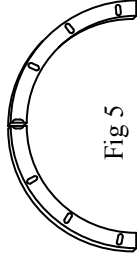

Fig 5
- 8 Take two of the curved sections for the roof. The curves have location slots for the roof struts as Fig 5.